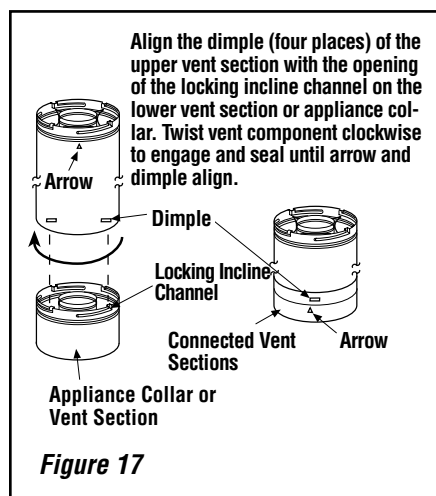

Figure 17
B. Attach vent components to appliance—Secure Vent® SV8 direct-vent system components are unitized concentric pipe components featuring positive twist lock connections (see **Figure 17**).
To attach a vent component to the appliance collar, align the dimpled end over the collar, adjusting the radial alignment until the four locking dimples are aligned with the inlet of the four inclined channels on the collar (refer to **Figure 17**). Push the vent component against the collar until it fully engages, then twist the component clockwise, running the dimples down and along the incline channels until they seat at the end of the channels. The unitized design of the **Secure Vent** components will engage and seal both the inner and outer pipe without the need for sealant or screws. If desired a #6 x 1/2" screw may be used at the joint, but it is not required as the pipe will securely lock when twisted.
Push the vent component against the previous section until it fully engages, then twist the component clockwise running the dimples down and along the incline channels until they seat at the end of the channels. **This seating position is indicated by the alignment of the arrow and dimple as shown in Figure 17.**
F. Change vent direction to horizontal/inclined run—At transition from or to a horizontal/inclined run, install the SV8 E45 and SV8 E90 elbows in the same manner as the straight vent sections. The elbows feature a twist section to allow them to be routed about the center axis of their initial collar section to align with the required direction of the next vent run element. **Twist elbow sections in a clockwise direction only so as to avoid the possibility of unlocking any of the previously connected vent sections.** See **Figure 17 on Page 16** and **Figure 19**.
Secure Vent SV8 direct-vent system components are unitized concentric pipe components featuring positive twist lock connection, (refer to **Figure 17 on Page 16**). All of the appliances covered in this document are fitted with collars having locking inclined channels. The dimpled end of the vent components fit over the appliance collar to create the positive twist lock connection.
C. Frame ceiling opening—If the vertical route is to penetrate a ceiling, use plumb line to locate the center above the appliance. Cut and/or frame an opening, 13" x 13" (330 mm x 330 mm) inside dimensions, about this center (refer to **Figure 17 on Page 16**).
E. Attach vent components to each other—Other vent sections may be added to the previously installed section in accordance with the requirements of the vent tables. To add another vent component to a length of vent run, align the dimpled end of the component over the inclined channel end of the previously installed section, adjusting the radial alignment until the four locking dimples are aligned with the inlets of the four incline channels of the previous section. Push the vent component against the previous section until it fully engages, then twist the component clockwise running the dimples down and along the incline channels until they seat at the end of the channels. **This seating position is indicated by the alignment of the arrow and dimple as shown in Figure 17 on Page 18.**
H. Change vent direction—At transition from or to a horizontal/inclined run, install the SV8E45 and SV8E90 elbows in the same manner as the straight vent sections. The elbows feature a twist section to allow them to be routed about the center axis of their initial collar section to align with the required direction of the next vent run element. **Twist elbow sections in a clockwise direction only so as to avoid the possibility of unlocking any of the previously connected vent sections (see Figure 17 on Page 18).**